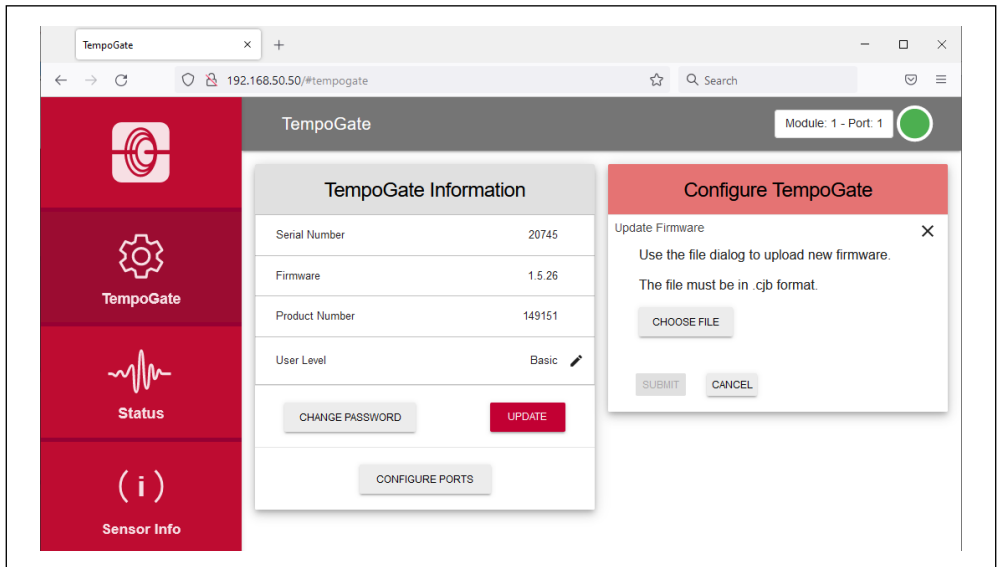

Fig. 32: The window "Configure TempoGate" to update the firmware
- Click the UPDATE button. The "Configure TempoGate" window opens (Fig. 32).